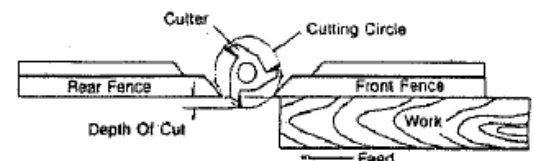

Fig. 8
1. For most work, where a portion of the edge of the work is not touched by the cutter, both the front and rear fences are in a straight line, as show in Fig. 8.